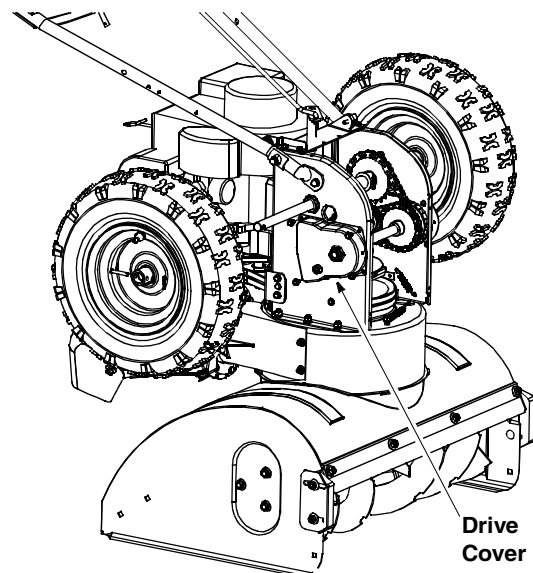

Figure 35
- Remove the four screws securing the left drive cover to the frame. Remove the drive cover from the side of the frame. See Figure 35 .